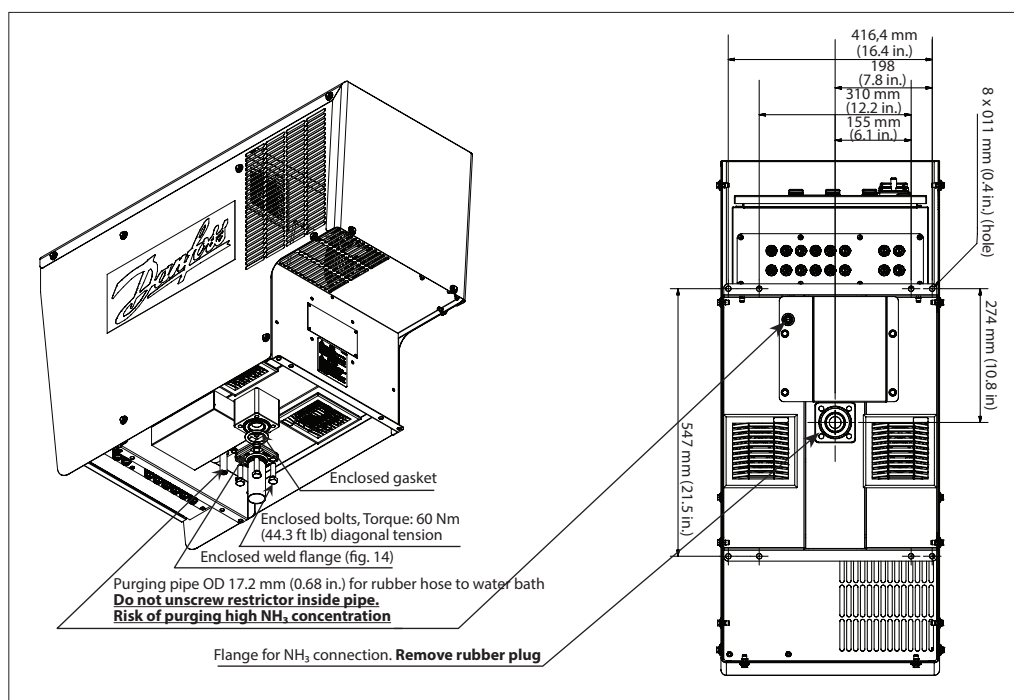
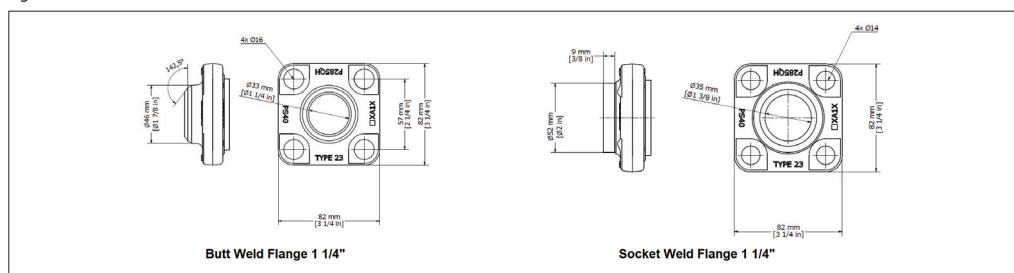

Fig. 13 Ammonia connection
Fig. 14 Enclosed weld flanges, included in the shipment
1. Prepare the ammonia pipework with the weld flange according to Fig. 13 and Fig. 14. The main/drain piping should never be smaller than inner diameter (1 1/4 in).